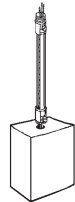

Fig. 2
Step 9: Connect conduit and conduit connector at the junction box (Fig. 2).